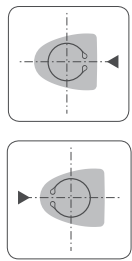

Fig. 12 Fitting the pump head to the pump housing
5. Make sure that the contact face of the pump housing and that of the pump head are in contact before the clamp is tightened. See fig. 12.
Caution Observe the position of the clamp before the clamp is tightened. Incorrect position of the clamp will cause leakage from the pump and damage the hydraulic parts in the pump head. See fig. 12.